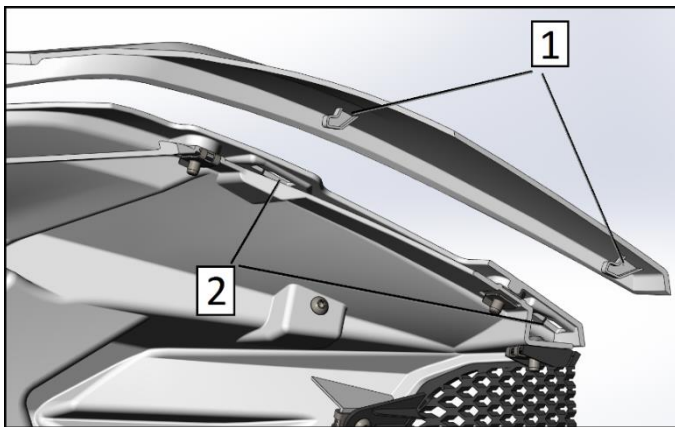

Fig. 34
1. Connect the hood (pose 1, Figure 34) with the hook slot (pose 2, Figure 34).